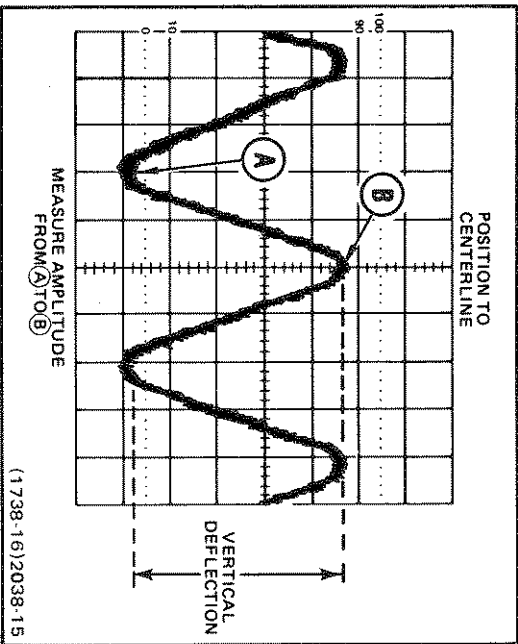

Figure 12. Peak-to-peak waveform voltage.
6. Vertically position the display so that the negative peak of the waveform coincides with one of the horizontal graticule lines (see Figure 12, Point A).
7. Horizontally position the display so that one of the positive peaks coincides with the center vertical graticule line (see Figure 12, Point B).
8. Measure the vertical deflection from peak to peak (see Figure 12, Point A to Point B).
**EXAMPLE:** The measured peak-to-peak vertical deflection is 4.6 divisions (see Figure 12) with a VOLTS/DIV switch setting of 0.5, using a 10X probe.